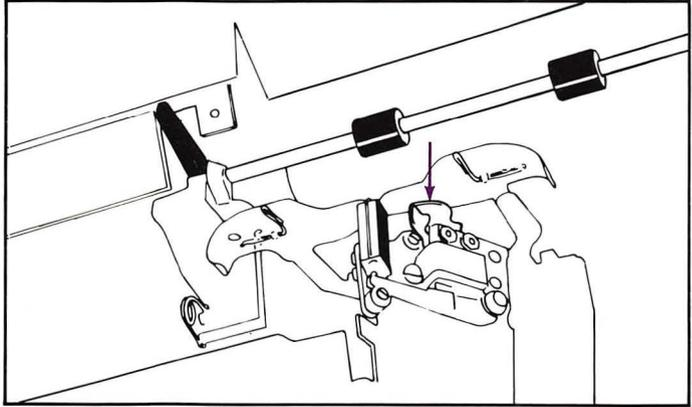

Figure 4. Print Mechanism Release Lever
2. Locate the release lever on the print mechanism and move it toward the print hammer. The easiest way to do this is to grasp the release lever and the print hammer between your thumb and forefinger, then squeeze them together. Refer to Figure 4.